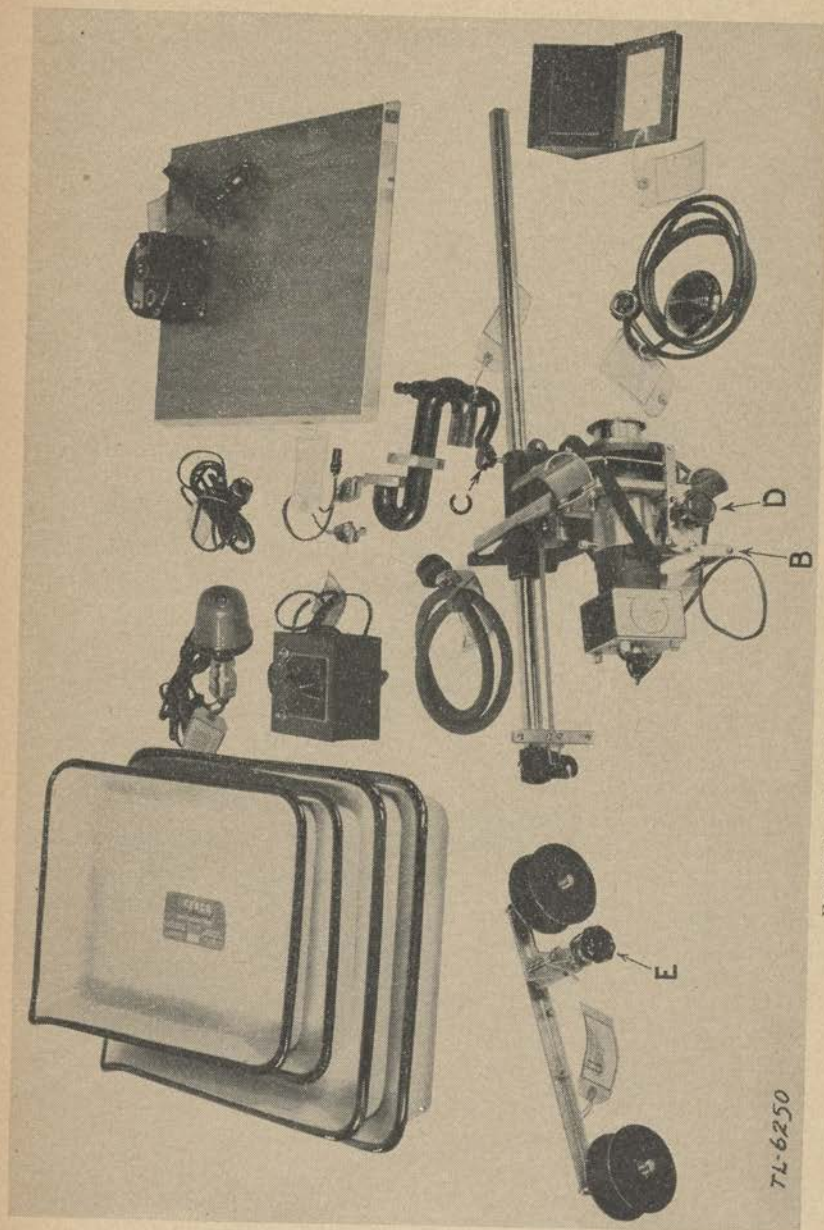
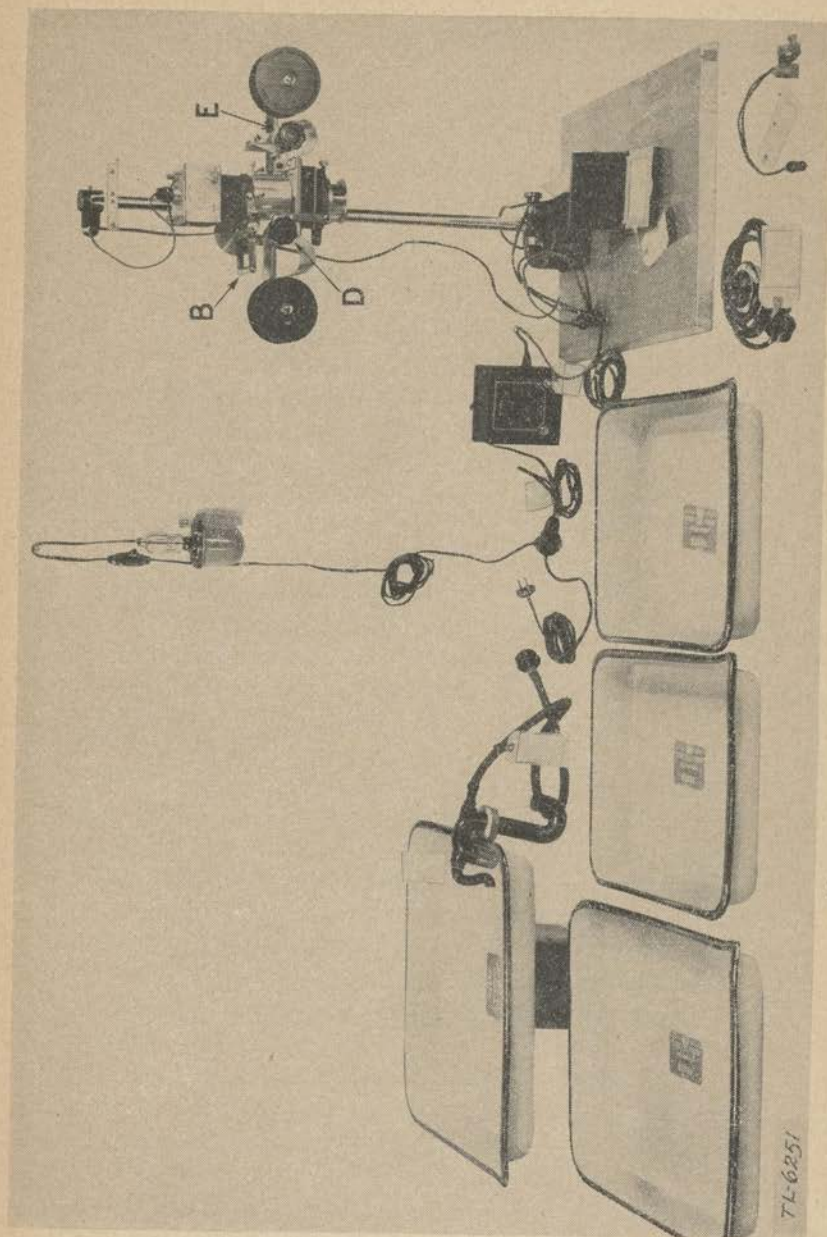

FIGURE 3.—Processing Equipment PH-395 removed from case.
FIGURE 4.—Processing Equipment PH-385 ready for use.
3. **Printer.**—This projection printer is used to enlarge prints from 35-mm negatives. It is of standard condenser design, and employs a 2-inch, f/4.5 anastigmat, enlarging lens. (See fig. 3.) The printer is mounted on a laminated baseboard, with a single girder bar sup-
(1) Place the baseboard in the approximate center of the workbench or table. (See fig. 3.)
(2) Insert the girder bar and the printer head assembly in the base socket, and tighten the bakelite knobbed set screw. Care must be exercised in aligning the printer head with the baseboard.
(3) If the microfilm attachment is to be used, loosen the knurled screws just behind the lamp house and slide the attachment frame under the screws. Tighten the screws to hold the attachment in position.
(4) Arrange the trays, timer, foot switch, and paper board (fig. 4) in the most convenient location. It is good practice to place the developer and fixer trays on opposite sides of the printer for easy identification in the dimly lit darkroom.
(5) Connect the siphon to the water source, and place it in position in the wash tray.
c. Composing the print.—Insert the negative in the film gate by pressing down the film gate release lever *B* (fig. 4), located just to the left of the lamp house. Turn the emulsion or dull side of the negative toward the lens. If the print is to include the entire area of the negative, the composing of the print is a matter of correct spacing of the image on the paper board. To accomplish this, loosen the bakelite knobbed setscrew *C* (fig. 3), located on the bottom of the printer-head bracket, and slide the entire printer head vertically along the guide bar until the correct image size is obtained. Open the lens wide; focus the lens by rotating the focusing knob *D* (fig. 3), located just to the left of the lamp house. Frequently it is not necessary to include the entire image of the negative in the print. In such instances, it is often possible to improve the composition of the print by local masking of the image.
(1) Open the lens wide and study the projected image for contrast. The degree of contrast will determine the contrast of the paper which should be used.
(2) Turn on the printer lamp; close the diaphragm of the lens until the image appears to have a brightness that will require an exposure of at least 10 seconds. The diaphragm has clicking stops which make it easier to determine when the desired opening has been reached. The ability to estimate when an image has the desired degree of brightness requires practice, but is an excellent way to judge exposures.
(3) Place a strip of test paper on the paper board in such a manner that it will cover an area of the negative which is uniform and of average density. Set the timer for exposures of 4, 8, 12, and 16 seconds and expose a strip for each period. If a storage battery is supplying power to the printer, the timer cannot be used and must be replaced by the foot switch. Exposure time, in this case, must be determined by use of a watch or some other timing device.
18. Use of microfilm attachment.—*a. General.*—If a number of prints of the same size are to be made from a reel of microfilm negatives, the microfilm attachment should be used. (See figs. 3, 4, and 5.) The installation of this attachment is outlined in paragraph 15*b* (4).
(1) Place the reel containing the negative strip on the shaft just to the right of the lamp house. Tighten the nut that holds the reel on the shaft.
(2) Insert the end of the film over the guide bar with the right hand. Turn knob *E* (fig. 4) clockwise with the left hand, making sure that the sprocket teeth engage the holes in the film. Rotate the knob until the film approaches the film gate.
(3) Press down the gate release lever *B* (fig. 4) when the film reaches the film gate, and lead the negative into the gate. Turn knob *E* until the desired negative is centered in the film gate.
(4) Loosen the small knurled screw on the collar located immediately behind knob *E* and rotate the collar until the ratchet engages. Tighten the knurled screw.
(5) Expose the paper according to instructions in paragraph 17.
(6) To project the next negative, press down on the film gate release lever and rotate knob *E* clockwise until the ratchet stops movement. The next negative will then be automatically centered in the film gate and may be printed.
(7) When the negatives project through the film gate, wind clockwise on the reel just to the left of the lamp house.
b. Printer head base.—The printer head base is a casting designed to slide vertically along the girder bar support. The base provides a lens mount, film gate, and screws for fastening the microfilm attachment. The adjustment knob *D* (fig. 3) moves the lens vertically for focusing. This knob turns a shaft, which in turn operates a lever arrangement through a gear reduction, thus providing a micrometer focusing adjustment for the lens. A positive-lock setscrew for clamping the printer head in any desired position is located near the bottom of the base casting. The film gate is of pressed steel construction, and is equipped with internal springs that automatically open the gate when the release lever is operated. The operation of this lever relieves the gate of the weight of the lamp house and permits easy insertion of the negative. The weight of the printer head is counterbalanced by a spring loaded reel mounted on the printer head base, with the end of the tape fastened to the top of the girder bar. As a result of this arrangement, a minimum effort is required on the part of the operator in moving the printer head for print size selection. A red filter for use with bromide papers is mounted just below the lens on a swivel mount.
then tightened, completing the adjustment of the attachment. To advance the film one frame, press down on the film gate release lever *B* (fig. 4) and rotate the operating knob one revolution. Stop when the ratchet engages.